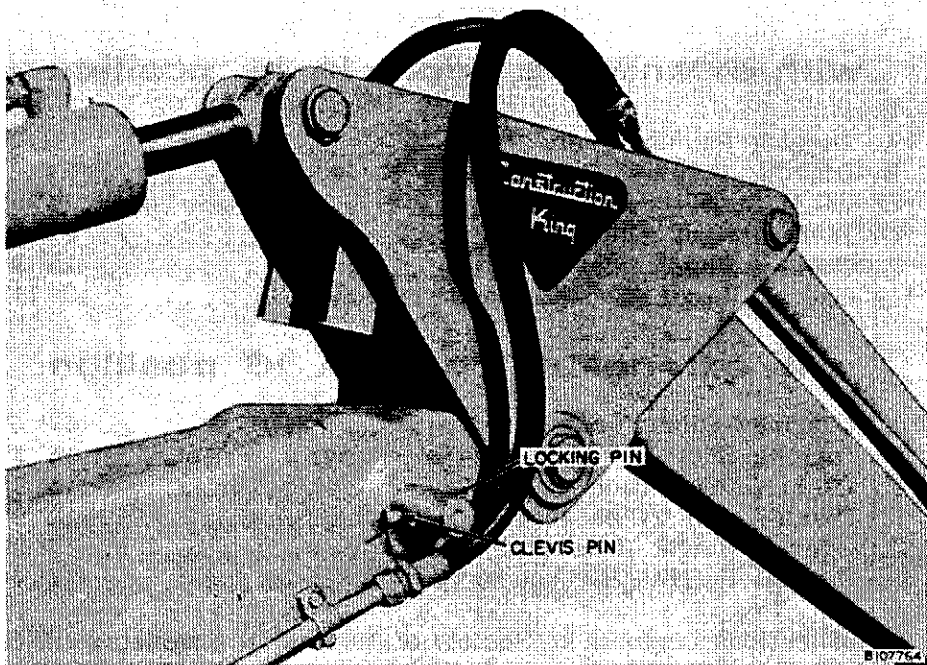

Figure 4 - Extendable Boom Locking Pin
4. Remove the 1-3/4" pin by using a heavy drift punch. Do not hammer on the tapered end of the pin. If the pin drives hard, raise or lower the boom to relieve the binding (Figure 4).